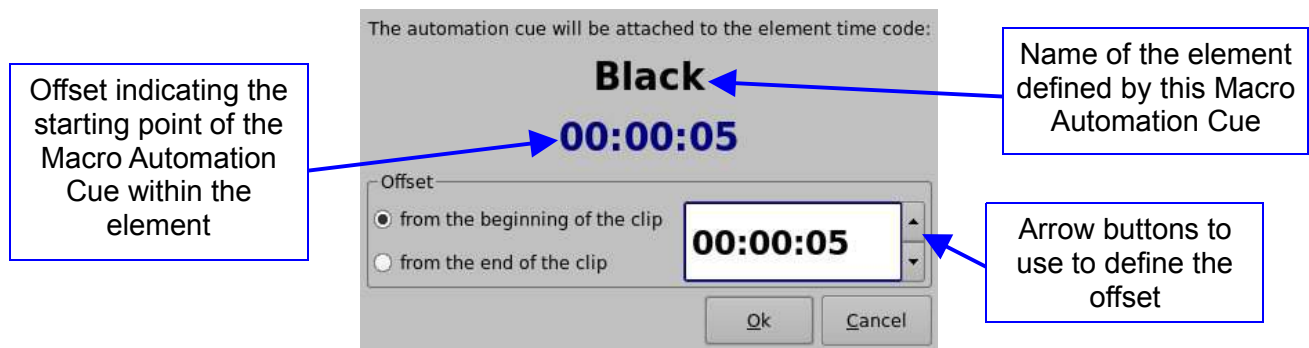

Figure 55: Automation Cue Offset Definition
- The user will be asked to define the offset of this Automation Cue from the beginning or the end of the chosen element using the following window (Figure 55):